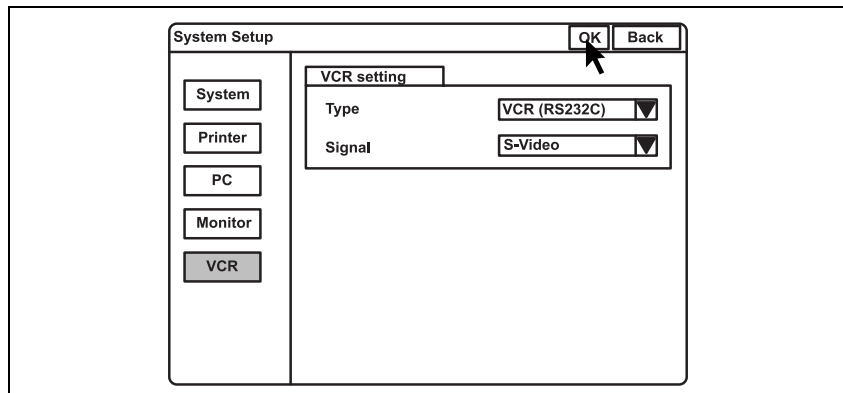

Figure 9.11
1. Click "OK" of the system setup menu (see Figure 9.11). All settings are saved in the video system center.